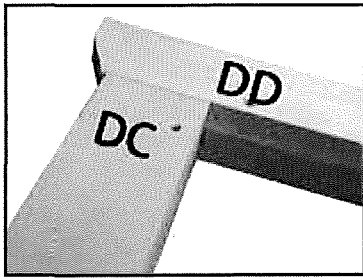

Fig 8
- 11 Place a DD part on top of a DB part. the DD part is positioned so there is an even overhang (fig8). Mark out and drill fix as steps 8 to 10. **But** start at 100mm from the end of part DD.